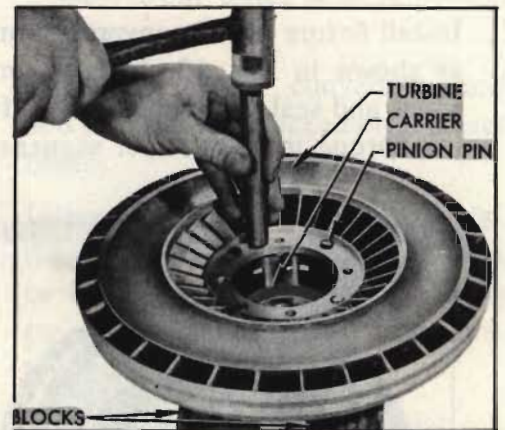

Fig. 14. Installing turbine on carrier
4. Support the carrier as shown in Fig. 14. Install pinion gear pins to act as pilots. Start carrier squarely in recess in turbine.
5. Using a hammer and a soft punch, gently tap turbine down over carrier (Fig. 14).